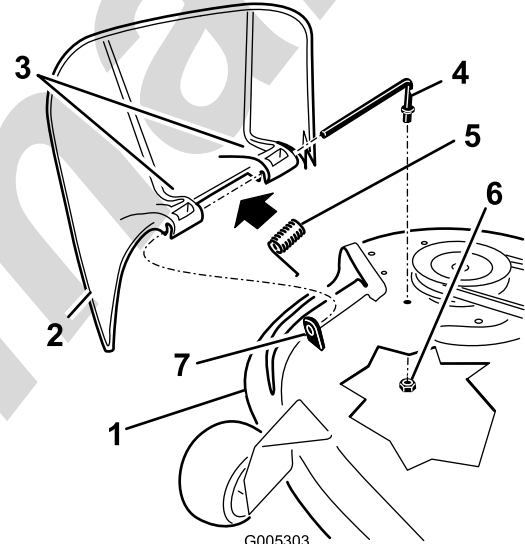

Figure 62
1. Locate items shown in Figure 62.
2. Remove the nut (3/8 inch) from the rod under the mower (Figure 62).
3. Slide the rod out of the short stand-off, spring, and grass deflector (Figure 62). Remove the damaged or worn grass deflector.
4. Replace the grass deflector (Figure 62).
6. Place the spring on the rod, with end wires down, and between the grass deflector brackets. Slide rod through second grass deflector bracket (Figure 62).
7. Insert rod at front of grass deflector into short stand-off on deck. Secure rear end of rod into the mower with a nut (3/8 inch) (Figure 62).